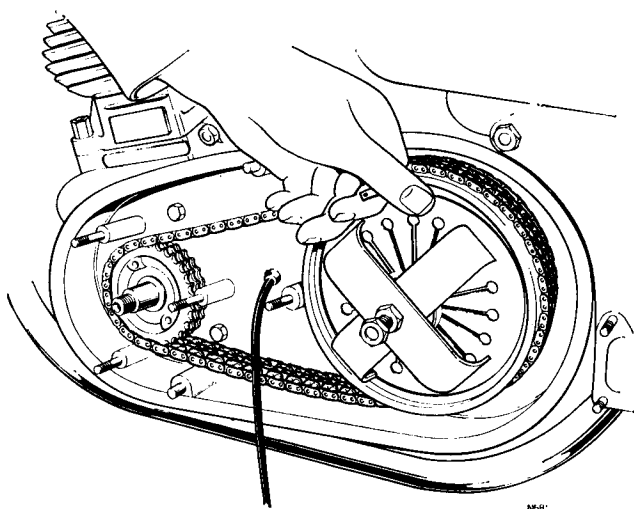

Fig. C45 Winding diaphragm spring circlip into position
- 17 Enter one end of the clutch spring circlip and continue to wind the remainder of the spring into the housing as shown in Fig. C45.